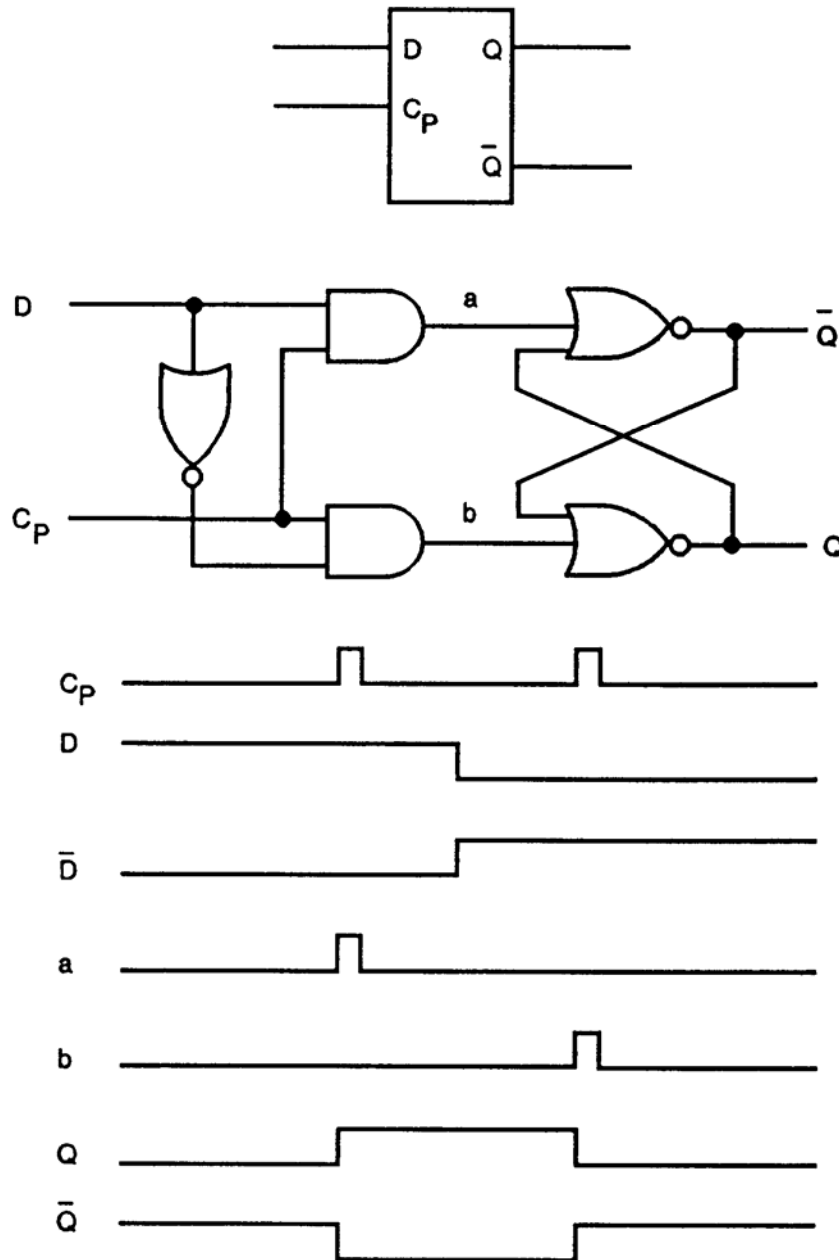

Figure Q-31. Data Flip-Flop
(1) In the previous FF, outputs were indeterminate. One way to eliminate this is to supply only one input called the data (D) input. Whichever state (high or low) is present prior to or during the clock will cause a change in the Q output when the clock pulse appears. Since the output will not change until the clock pulse arrives, this flip-flop is sometimes called the DELAY FF.
(2) One use for this FF is to store data from a shift register until readout has occurred, allowing the register to begin its next cycle. Figure Q-31 shows a D FF.